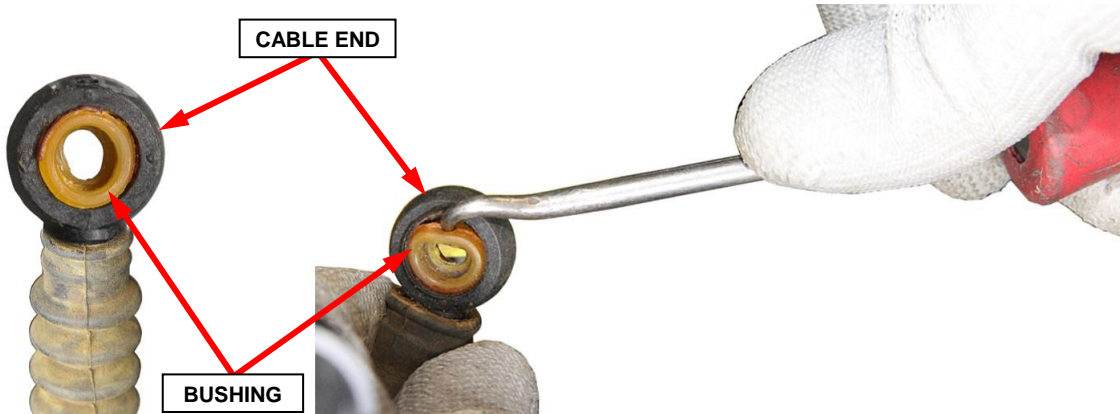

Figure 4 – Remove Old Bushing
- Remove the old bushing from the cable end using long nose pliers, pick or other appropriate tool that will not cause damage to the cable end (Figure 4).